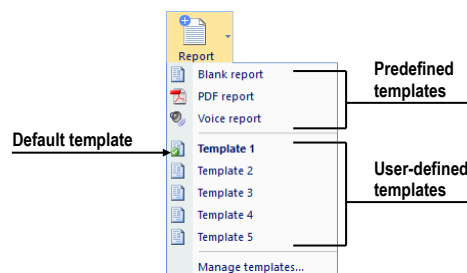
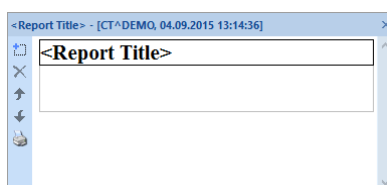

Figure 419 – Report button with menu
Figure 422 – Report dialog
TomoCon offers the possibility of creating three types of reports – structured text report, PDF report and voice report. To create a new report from the default template, click **Report** button in the main toolbar. To create a new report from another specific template, click the drop-down arrow of **Report** button and choose the template from the menu (see Figure 419). To manage templates, click the drop-down arrow of **Report** button and choose **Manage templates...** item.
-  **Text type templates** - write a text report in **Report** dialog displayed subsequently (see Figure 422). Select either **Blank report** template or another of the available text templates (e.g. Template 1, see Figure 419). User-defined text template defines the structure of the new text report.
TomoCon offers the possibility to create your own text structure report using the report editor. This concerns a special dialog window (see Figure 422) in which you can write a structured text. The heading of the newly created report is filled in automatically from the patient study properties.
To edit an existing report, select it from the report list by clicking on the report; then click  **Edit report** icon in the toolbar. The **Report** editor (see Figure 422) is then displayed in which you can change the content of the report.